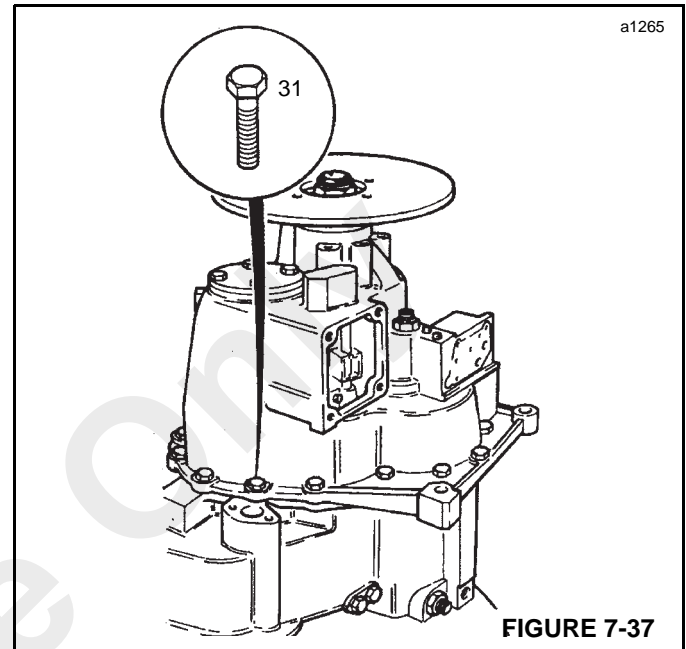

FIGURE 7-37
31. Carefully, lower output end casing into position. Apply Loctite 243 to bolts (31, Figure 7-37) and tighten to a torque of 56 Nm (42 lb-ft).